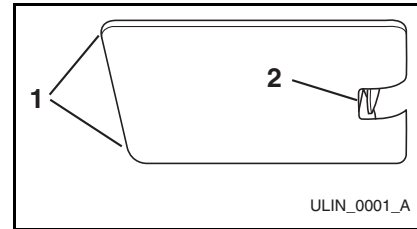

Figure 17
1. Grasp the edges of the light housing lens (**Figure 17, 1**) opposite the exposed tab and gently push the lens toward the tab (**Figure 17, 2**).
2. Pull the edge of the lens down (**Figure 17, 1**) and swing it out of the light housing.